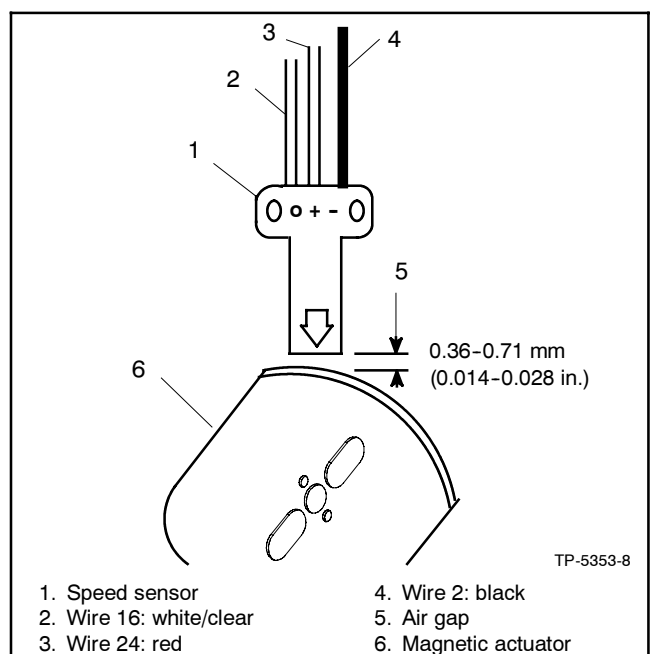

Figure 8-47 Speed Sensor Air Gap
8. Connect the speed sensor leads and adjust the air gap. See Figure 8-47.